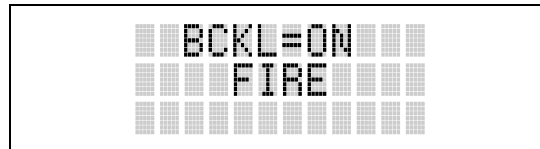

Figure 10-10: Backlight Menu Display
- Press **[M]**. The backlight menu item is activated. Line one shows the active menu item and its current parameter setting. Line two shows the currently selected system or group name (see Figure 10-10).